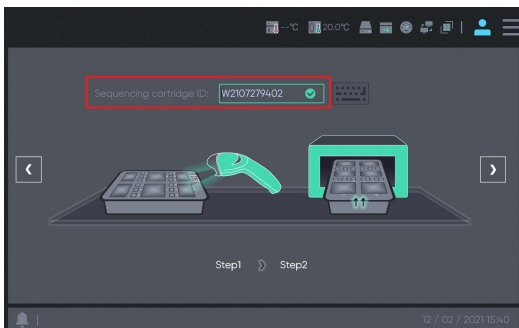

Figure 3-13 Fill in the sequencing cartridge ID
- 9) Go to the next step and fill in the **[Sequencing cartridge ID]** in the window, click  to enter the next step (Figure 3-13).